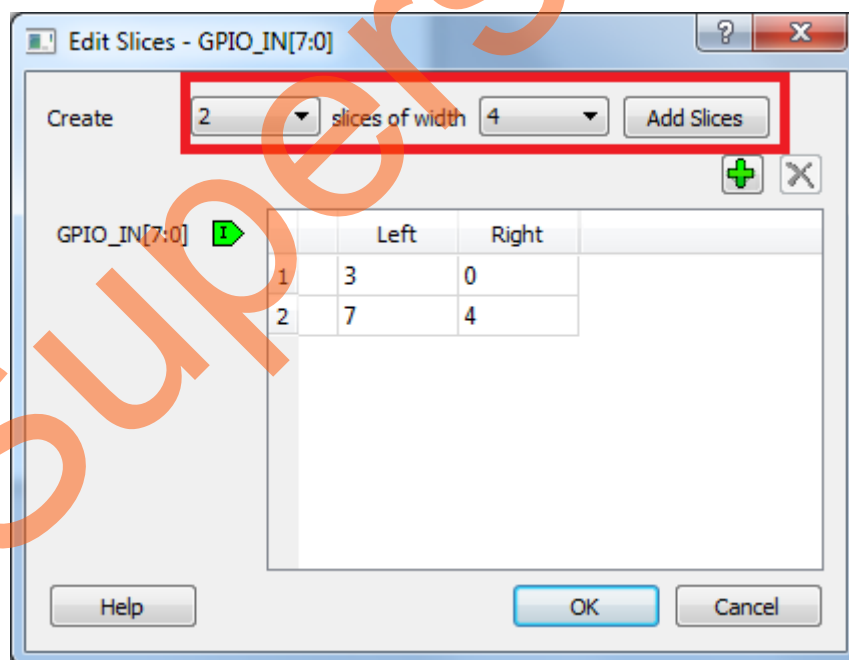

Figure 29 • Edit Slices
24. Select 2 slices of width 4, click **Add Slices**, and edit the window as shown in Figure 29.